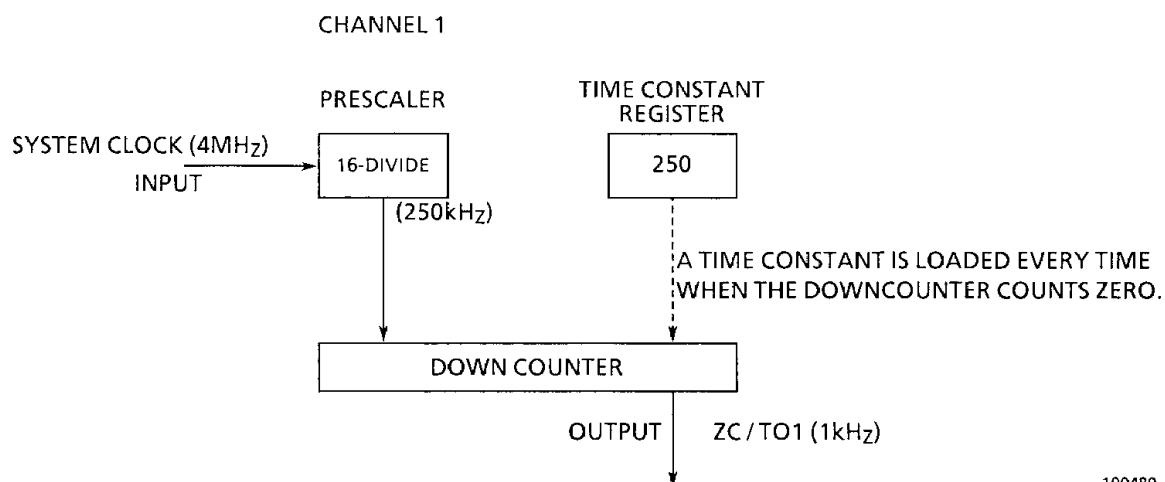

Figure 3.17 Timer Block Diagram
- (b) The block diagram for converting the 4MHz system clock into the 1 kHz equivalent is shown in Figure 3.17.